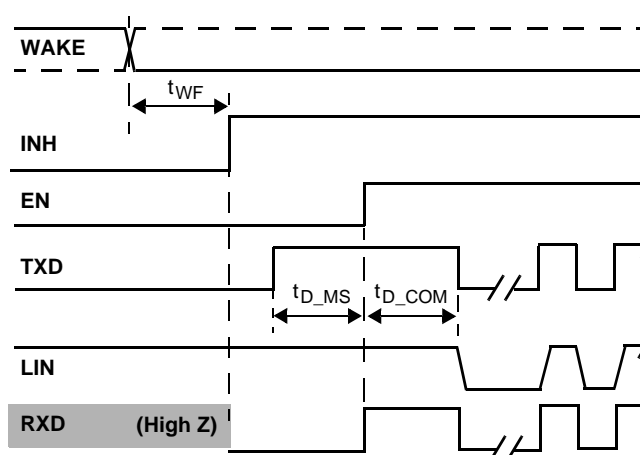

Figure 9. WAKE Pin Wake-Up and Normal Baud Rate Selection (1.0 kbps to 20 kbps)
- 10 See Figures 9 and 10, 10.